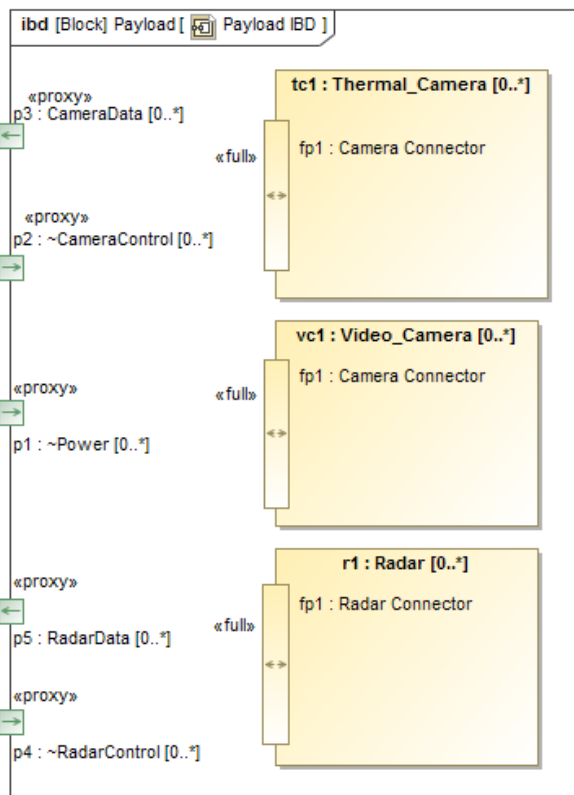

Figure 5 Payload IBD, second stage
- In the diagram, click **tc1:Thermal Camera** and select the Display All Ports icon on the floating toolbar. Repeat the process for **vc1: Video Camera** and **r1:Radar Camera**. Resize the full ports. The diagram should appear as in Figure 5.